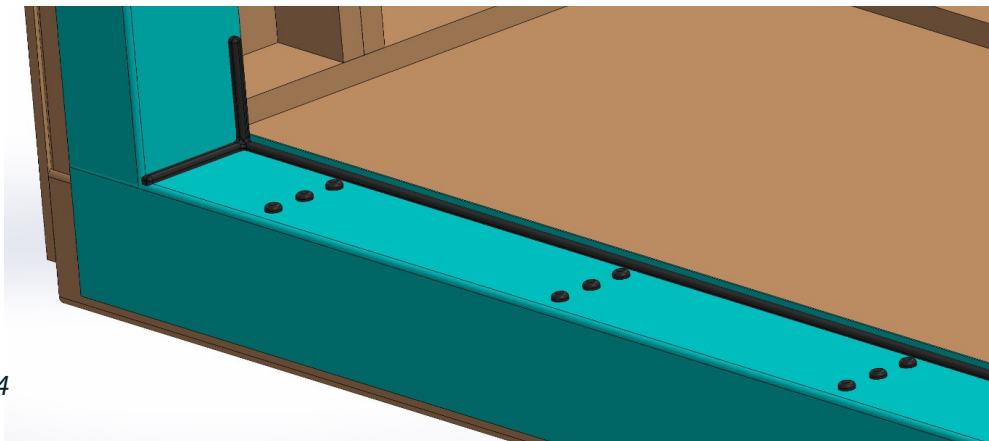

Figure 4
**Note: If you choose to drill the anchor holes into the concrete while the sill assembly is still in place, you must vacuum the debris from the top of the sill as well as from below to ensure that the caulking and or roller assemblies do not get contaminated. Figure 4**
11. With the sill assembly removed, and clean from debris, apply a 1/2" bead of sealant to the floor from jamb to jamb along the exterior edge of the mark previously applied to the floor. The sealant should be applied in a U-shape to ensure a proper and complete water-barrier has been accomplished across the full width of the sill opening, and at least 6" up each side. (See Figure 4)